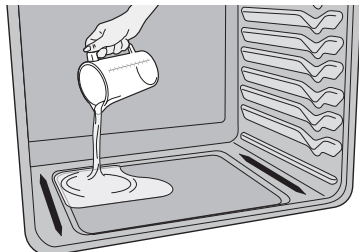

Figure 30: Add 1 cup of tap water
3. Pour 1 cup of tap water onto the oven bottom. (Figure 30) Close oven door.